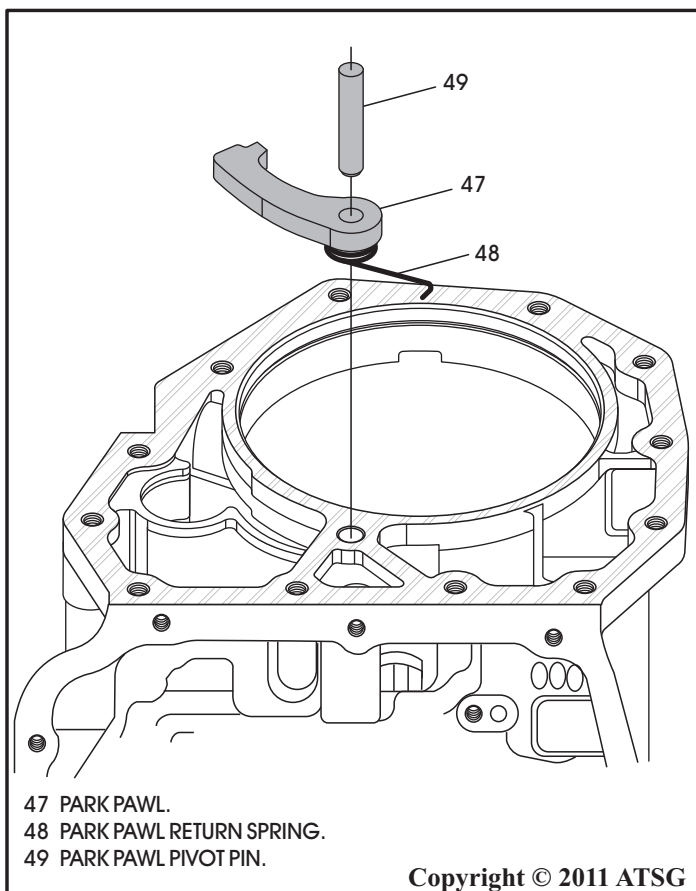

Figure 61
3. Install the park pawl and park pawl return spring through back of case into position, and insert the pivot pin, as shown in Figure 61.